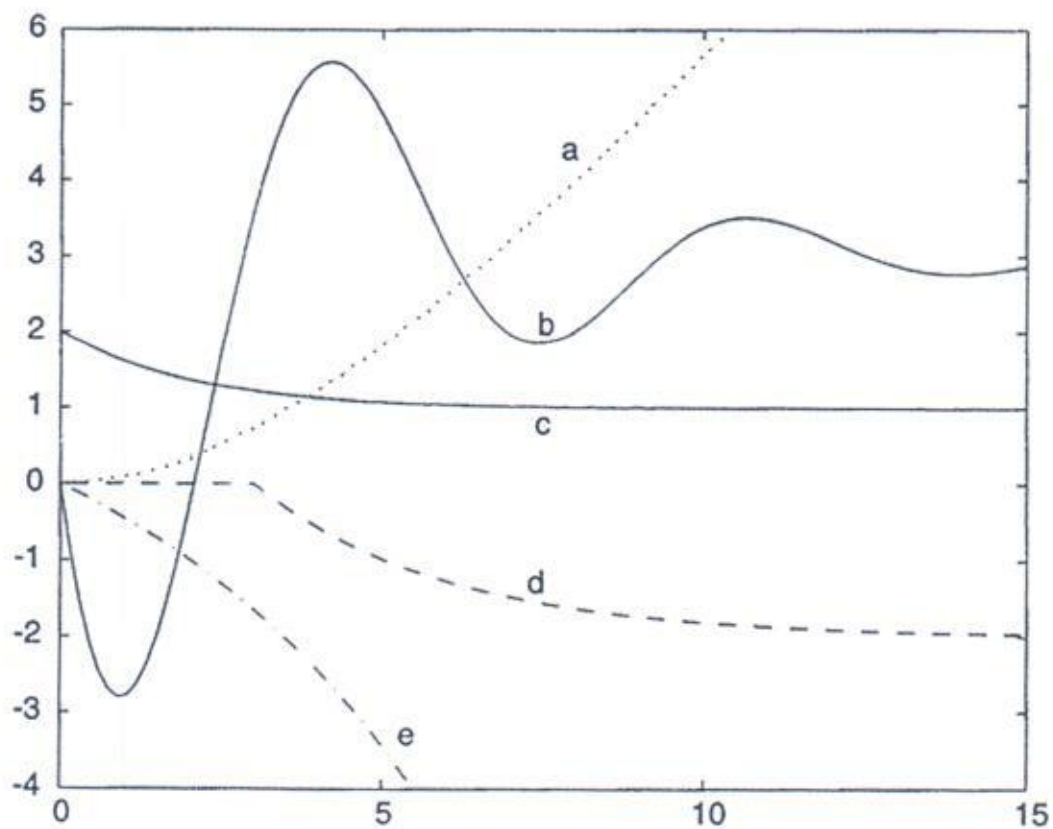

Figure Q.2.[c]
- [c] Match the transfer functions with the responses to a unit step input, shown in Figure Q.2.[c].